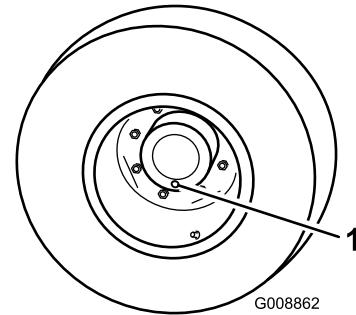

Figure 43
1. With the machine on a level surface, position the wheel so that the check/drain plug (Figure 43) is at the 6 o'clock position.